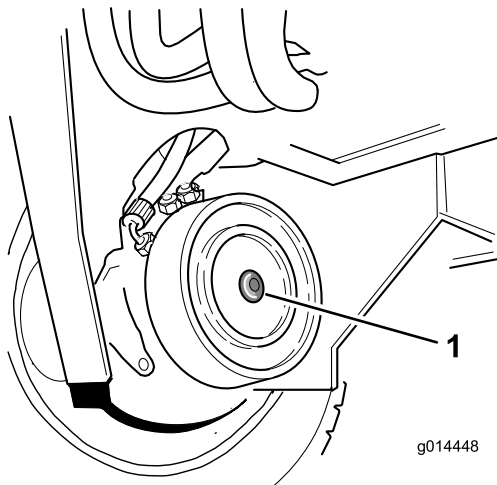

Figure 44
2. Identify the right, front disc brake assembly and remove the hex plug (Figure 44).